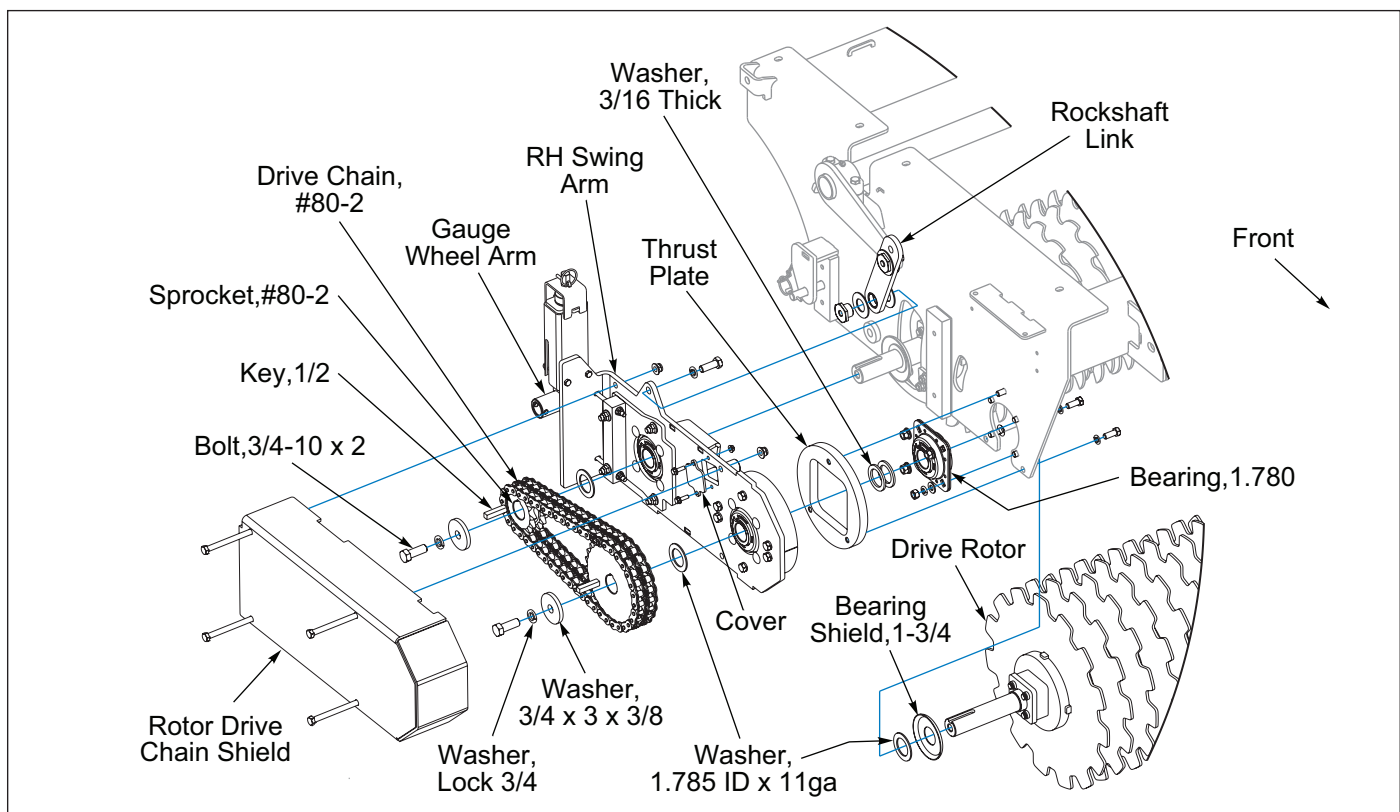

Figure 4-10: Rotor Drive Blade Repair - LH Side
3. Relieve air out of the LH and RH Tillage Rotor Shocks and remove Rockshaft Link Bolts that attach to the Swing Arms. The Tillage Rotor Shafts will now rest on the U-Shaped Support Plate. **See Figures 4-10 and 4-11.**
18. Re-Assemble Drive Rotor into the Frame. 1.523 Shaft is on the left and 1.776 Shaft is on the right. Orient the Bearing Shield cup outward. Place the appropriate Bearing Shield and 11ga Washer on the Drive Rotor Shafts. **See Figures 4-10 and 4-11.**